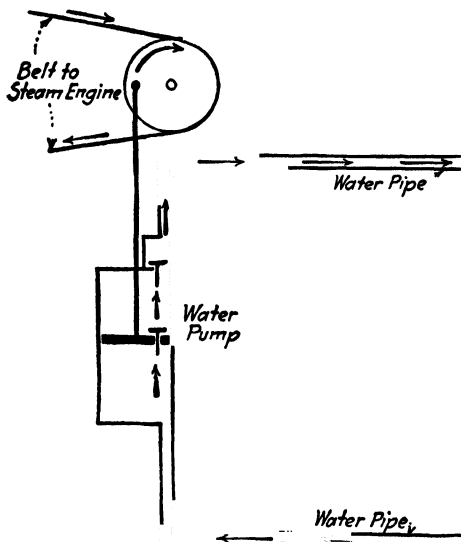

FIG. 1-53. Direct-current water pump.
**Direct-current Water Pump.** To obtain a direct current of water, which is a current that flows continually in one direction, we simply have to add a set of valves to our water pump, as shown in Fig. 1-53. The water will now not be able to flow backward after it is once forced through the valve and, therefore, the direction of the water flow will always be the same. As the piston moves up, it forces the water through the top valve, and as the piston drops, the top valve closes and the lower valve rises and allows the water to fill the cylinder. When the piston moves upward again, the cylinder is full of water and more water will be forced into the circuit through the top valve as before.